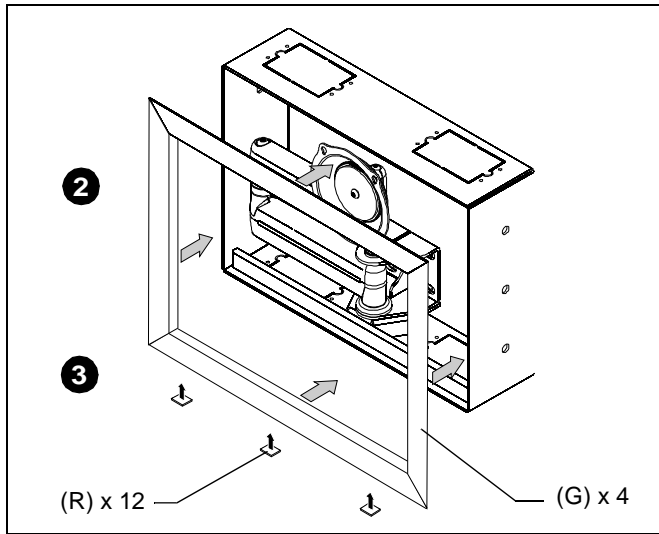

Figure 16
1. Remove paper covering adhesive and affix three tape squares (R) to inside lower flange of each trim piece (G). (See Figure 16)
2. Orient trim pieces (G). (See Figure 16)
3. Remove paper covering adhesive back from tape squares (R) on trim and press trim (G) against inner wall of box. (See Figure 16)